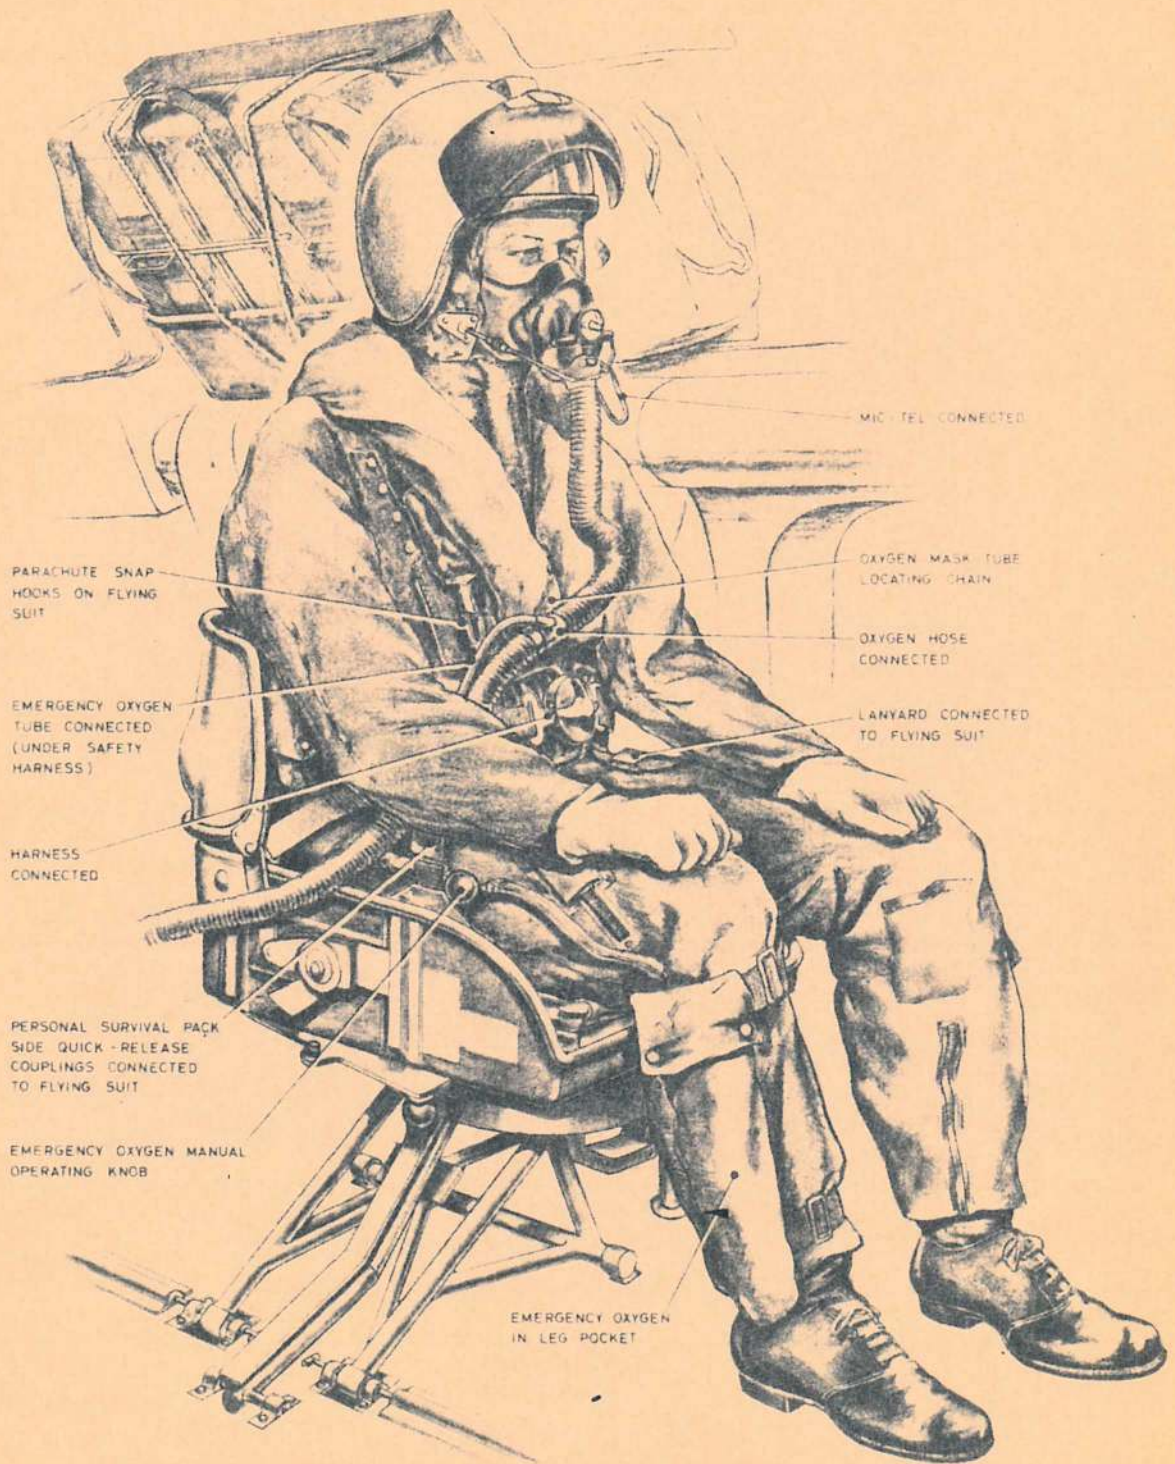

Fig. 13. The folding seat occupied
32. Before and during take-off the navigator is to occupy the fixed seat but before doing so he must be wearing a flying helmet, oxygen mask and protective helmet. The procedure is as follows (fig. 13):—